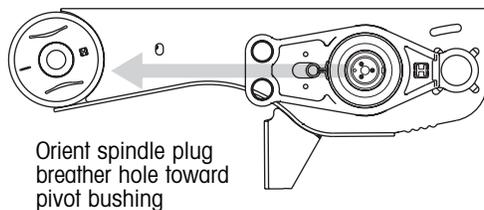

Figure 9. Spindle plug installation
- Spindle plug driver and handle* (figure 9), unless the spindle plugs are already installed in the axle from the factory
1. On one end of the axle, route the end of the braided hose through the center of the spindle plug (figure 9).
2. With the spindle plug breather hole oriented toward the pivot bushing (figure 9), place the plug assembly against the spindle end.